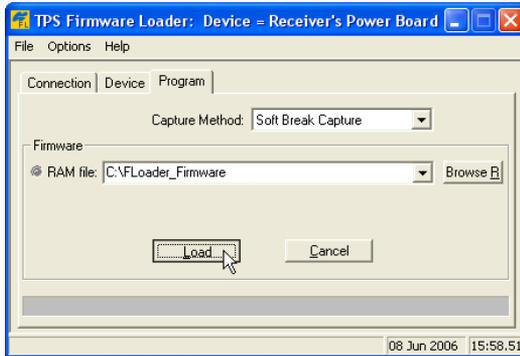

Figure 5-22. Program Tab Settings
6. Click the **Program** tab, and set the *Capture Method* to “Soft Break Capture” (recommended) (Figure 5-22).
7. Browse for and select the Power board’s RAM file (Figure 5-22).